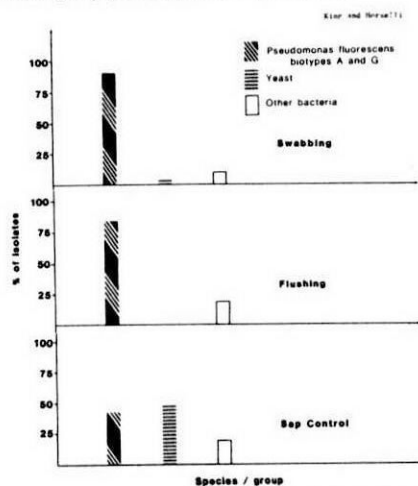

Fig. 1. % of isolates in species/group category from swabbing, flushing, and sap control for the three sap and tubing systems.
Of the total isolates, 62.6% were recovered from sap control. Identification of these isolates indicated that 40.4% were *Pseudomonas fluorescens* (biotypes A and G), 45.8% were yeast, and 14% were other bacteria (Fig. 1).
Of the total isolates, 9.6% were recovered from flushing the tubings. Of these isolates 81.8% were *Pseudomonas fluorescens* (biotypes A and G) and 18.2% were other bacteria (Fig. 1).
G), 3.2% were yeast and 6.2% were other bacteria (Fig. 1). The number of recovered bacteria (*Pseudomonas fluorescens*) should have decreased proportionally from sap control to flushing to swabbing if adherence to the tubing walls had not occurred.